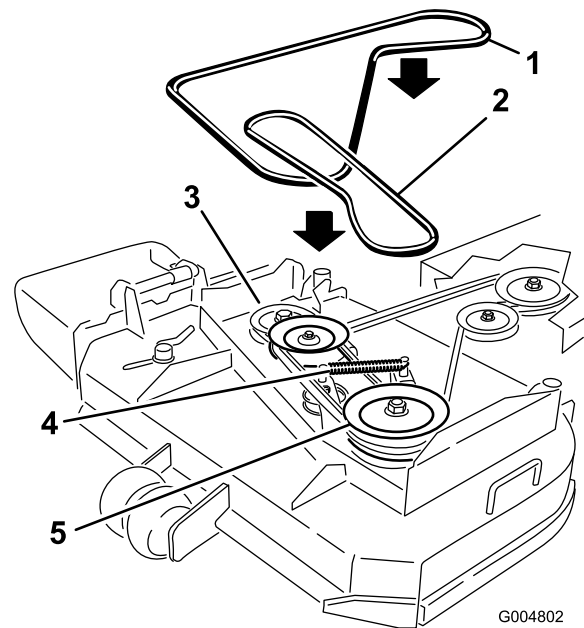

Figure 44
6. Disconnect the idler arm spring to relieve tension on the idler arm and idler pulley, then remove the worn mower belt (Figure 44).
7. Install the new mower belt around the two outside spindle pulleys, the idler pulley, and in the lower groove of the double spindle pulley (Figure 44).
8. Connect the idler arm spring (Figure 44).
10. Adjust the belt guide an 3 mm (1/8 inch) from the belt (Figure 44).